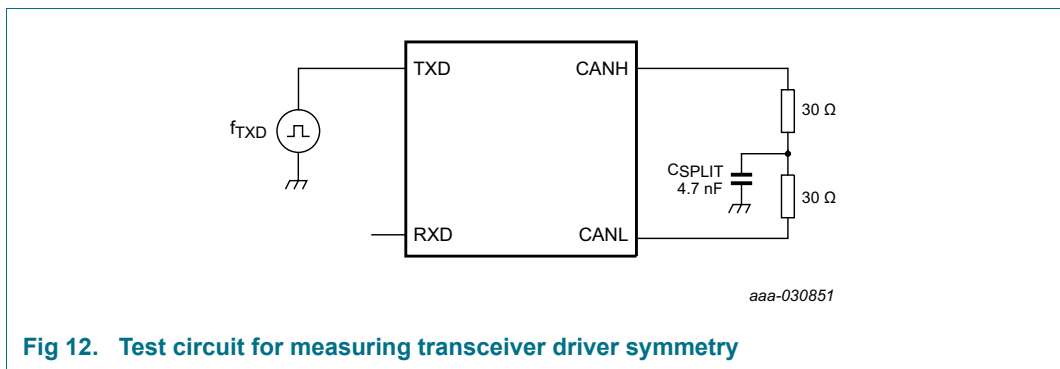

Fig 12. Test circuit for measuring transceiver driver symmetry
- [4] The test circuit used to measure the bus output voltage symmetry (which includes  $C_{SPLIT}$ ) is shown in Figure 12.
(1) Standby Mode: CAN Offline mode,  $V_{BAT} = 12\text{ V}$ ,  $I_{V1} = 0\ \mu\text{A}$ .